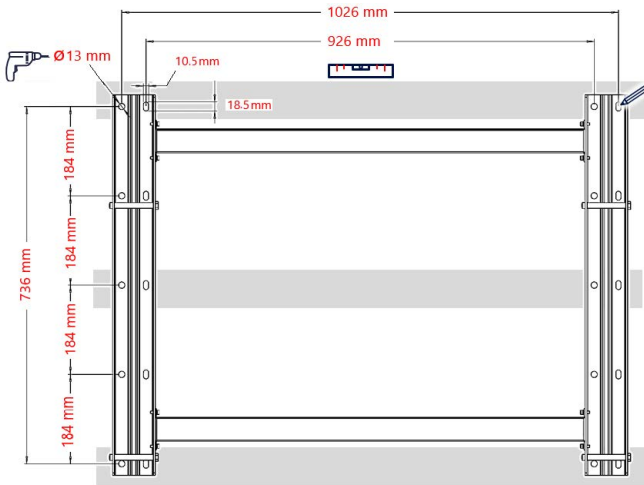

Figure 18: Marking the drilling holes for the mounting bracket
1. Level the mounting bracket of the inverter horizontally against the metal frame and mark at least eight drilling hole locations (see *Figure 18*).